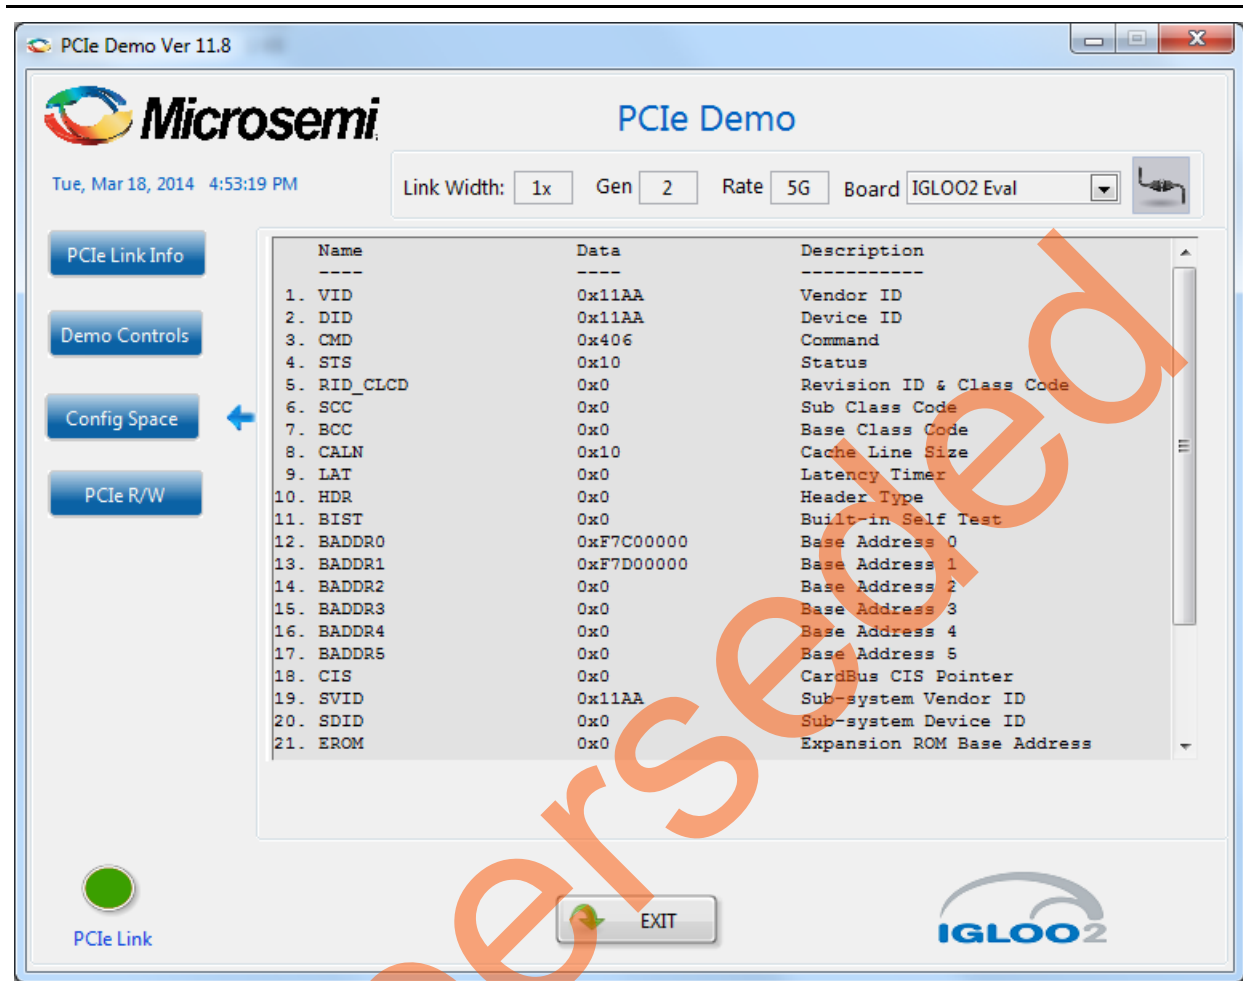

Figure 62 • Configuration Space
12. Click **Config Space** to read details about the PCIe configuration space. Figure 62 shows the PCIe configuration space.